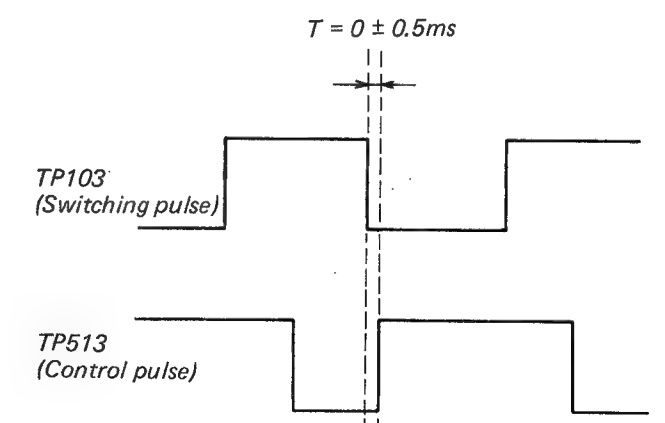

Fig. 1-4-10 Tracking center adjustment
b. Adjust R553 so that phase difference of 0 ± 0.5 msec is obtained between the falling edge of the switching pulse and the rising edge of the control pulse. (Fig. 1-4-10)